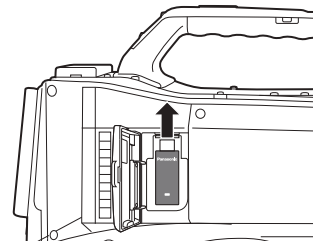
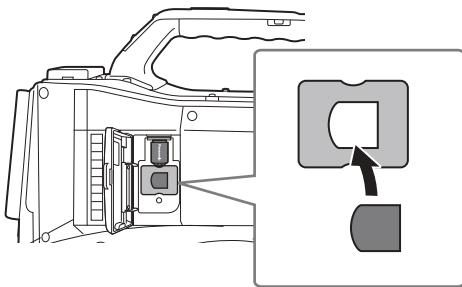

Fig. 3
Fig. 4
- 3** Securely attach the wireless module to the <USB2.0> terminal (sub-host). (Fig. 3)
- 4** (AJ-WM50 only) Place the module holder under the wireless module. (Fig. 4)
- 3** Rotate the part at the bottom of the cover in the direction of the arrow (Fig. 3) and close the cover so that the USB 2.0 extension cable goes through the gap. (Fig. 4)